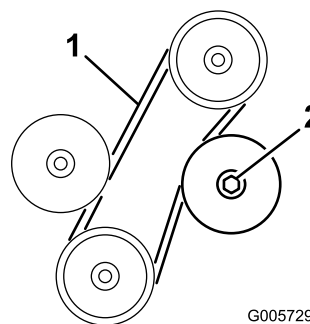

Figure 67
3. Belt should deflect 1/4 inch (6 mm) midway between the pulleys with 5 lb. force (22 n) (Figure 67). If deflection is incorrect, proceed to step 4. If correct, proceed to step 5.
4. Loosen locknut securing adjustable idler pulley (Figure 67). Push idler pulley against belt until proper deflection is achieved and tighten idler pulley locknut (Figure 67).
2. Loosen locknut securing adjustable idler pulley, slide pulley away from belt, and remove belt from pulleys (Figure 67).
pulley and stationary idle pulley. Tighten idler pulley locknut to secure adjustments (Figure 67).